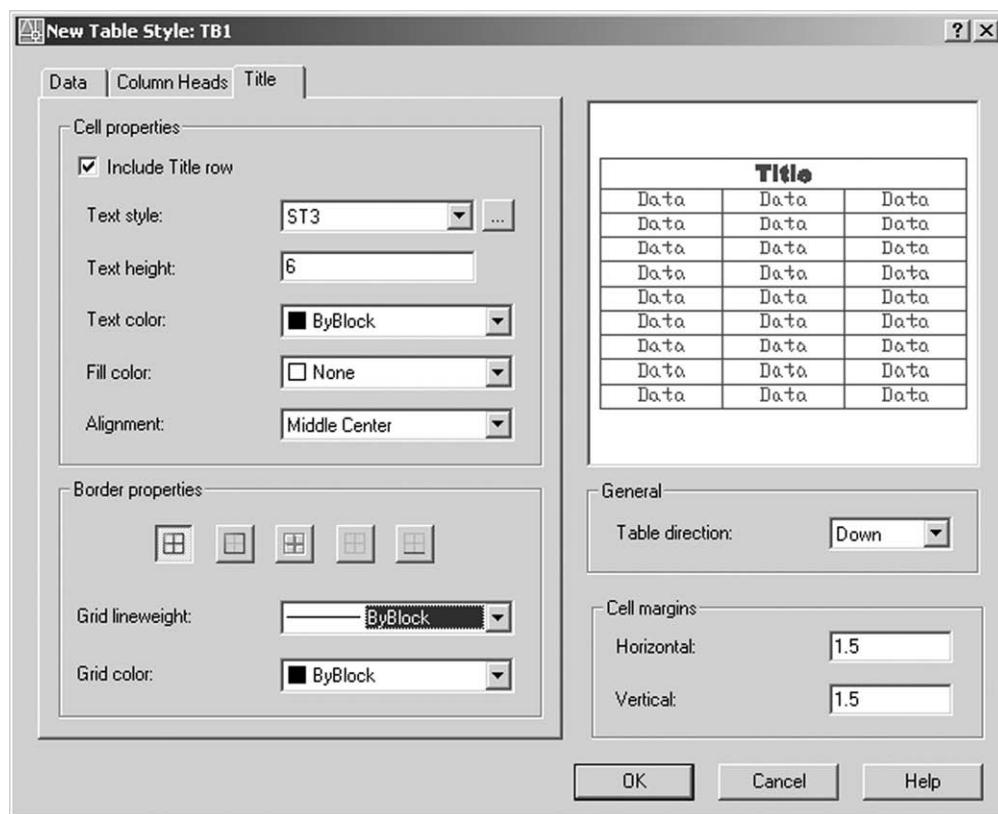

Figure 24.3 The New Table Style dialogue box for TB1 – Title tab.
- a) Both horizontal and vertical set to 1.5 – Figure 24.3